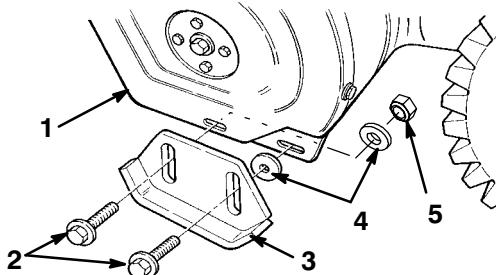

Figure 10
3. Remove the two flange bolts and the two flat washers that secure the ends of the scraper to the side plates (Fig. 10).
3. Skid (2)
5. Insert a washer **between each skid and the side plate** (Fig. 10). Do not tighten the bolts.
7. Insert a washer and a locknut **behind (on the inside of) the side plate** (Fig. 10). Do not tighten the bolts.